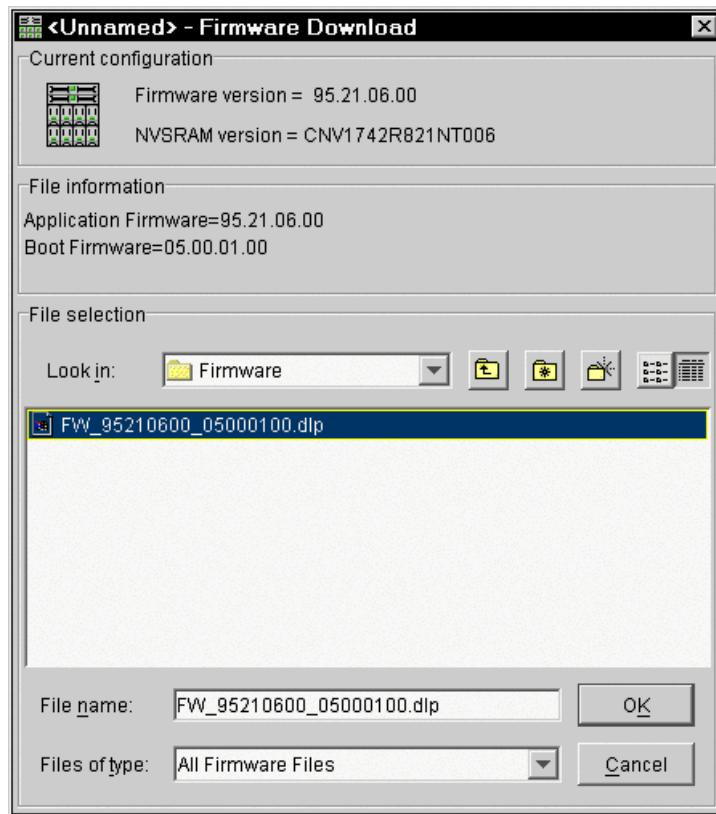
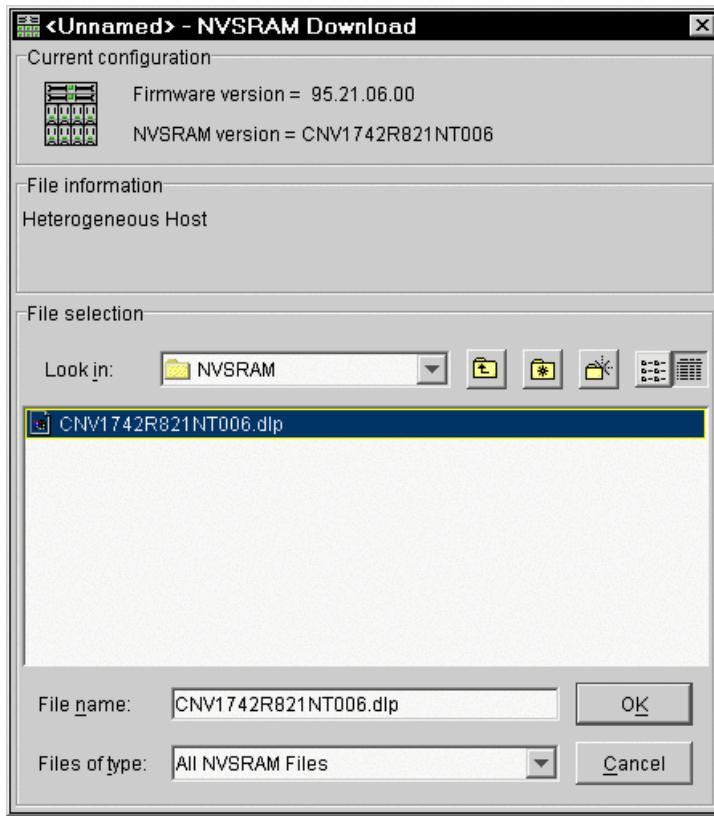

Figure 4-15 Firmware Download window
Figure 4-19 NVSRAM Download window
- b. You are prompted for the file location where the new firmware you want to download is stored. In the first part of the window, you can see the actual versions of the firmware and NVSRAM installed on the controllers. The second part tells you which firmware revision is included in the file you have chosen as shown in Figure 4-15.
- As for the firmware download, choose the correct file you want to download to the controllers (Figure 4-19). The window has the same structure as the Firmware Download dialog (Figure 4-15). Therefore, you see the new firmware revision and the NVSRAM revision installed on the storage subsystem.